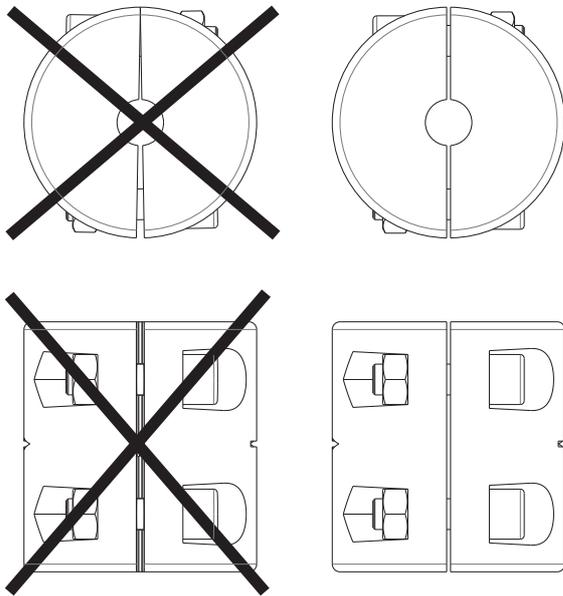

Figure 13: Tighten the coupling
1. Loosely fasten the coupling shells (862) with the coupling pin (560) on the shaft (210). Use the hexagon socket head cap screw (914.01).
2. Tighten the lower bolts of the coupling shells (862) so far that the coupling slightly clamps around the motor shaft.
3. Lift the shaft (210) up to 1,5 [mm]. For this purpose put a special tool under the coupling. Make sure the coupling can move smoothly over the motor shaft, so that the shaft will not be lifted out of the bearing.
4. Fully tighten the couplings to the correct torque mentioned in chapter 3 Torques. Make sure that the gaps between the couplings are equally divided on both sides (see figure 13 Tighten the coupling).
1. Insert the o-ring (412.01) with water or a soap solution in to the o-ring chamber of the cover (160). When necessary, use acid free Vaseline to stick the o-ring into the cover (160).
3. Insert the cover (160) in to the motor stool lower (314.02) in such a way that the bottom of the cover (160) and the motor stool lower (314.02) are parallel. Make sure the filling gap of the cover (160) is centred in the motor stool lower (314.02). Like shown in figure 13.